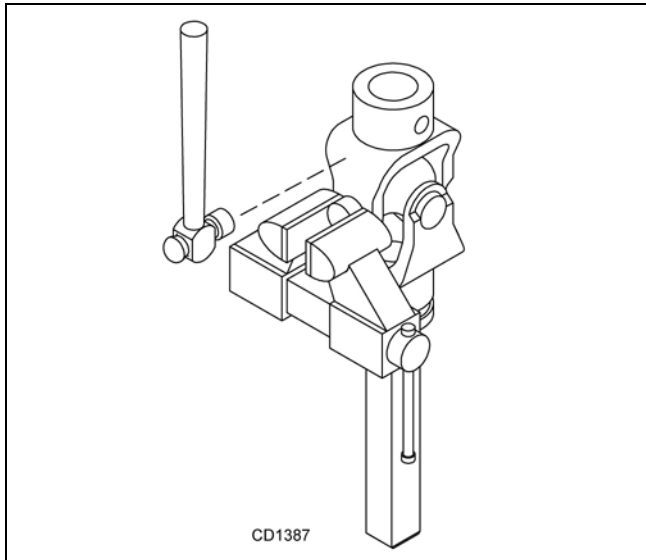

Figure 27. Remove Cups
3. Clamp cup in vise as shown in Figure 27 and tap on yoke to completely remove cup from yoke. Repeat Step 2 and Step 3 for opposite cup.